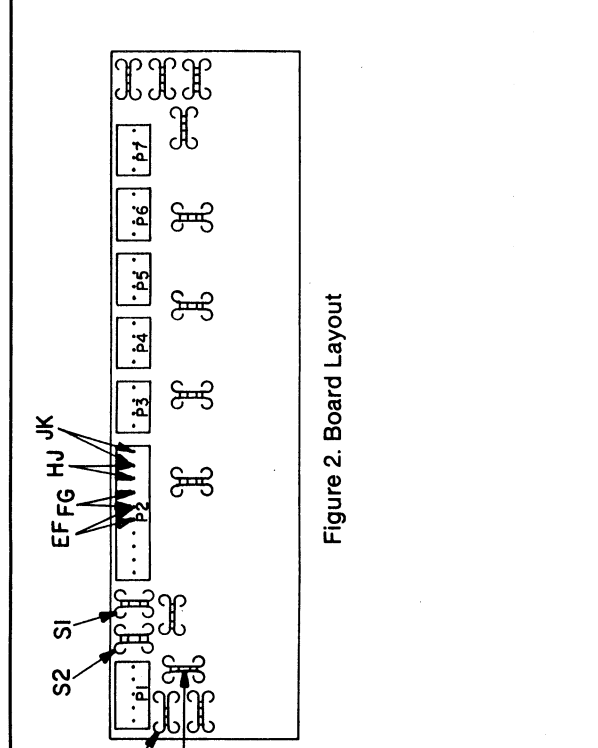

Figure 2. Board Layout
- To convert line 4, reposition the P2 function strip from terminal EF to terminal FG. To convert line 5, reposition the P2 function strip from terminal HJ to terminal JK. Refer to Figure 2 for an illustration of the PWB layout.